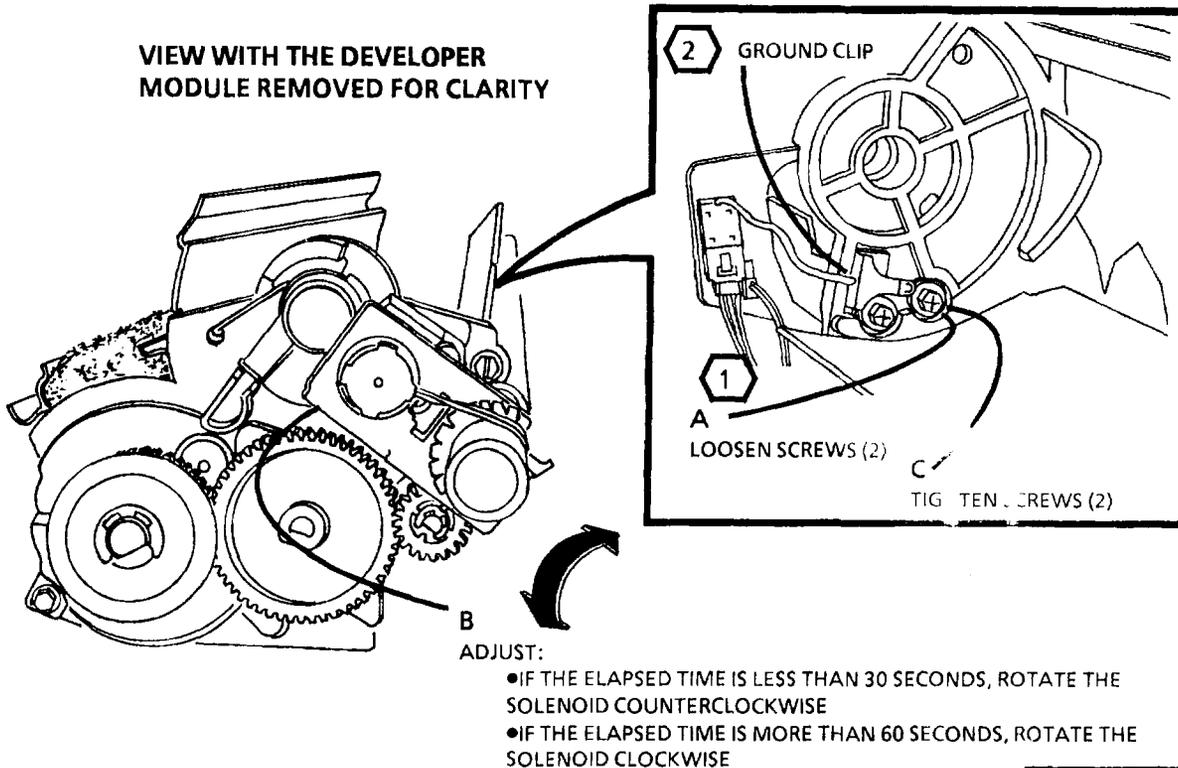

Figure 1. Adjust the Toner Dispense Solenoid
8. (FIGURE 1): ADJUST THE TONER DISPENSE SOLENOID.